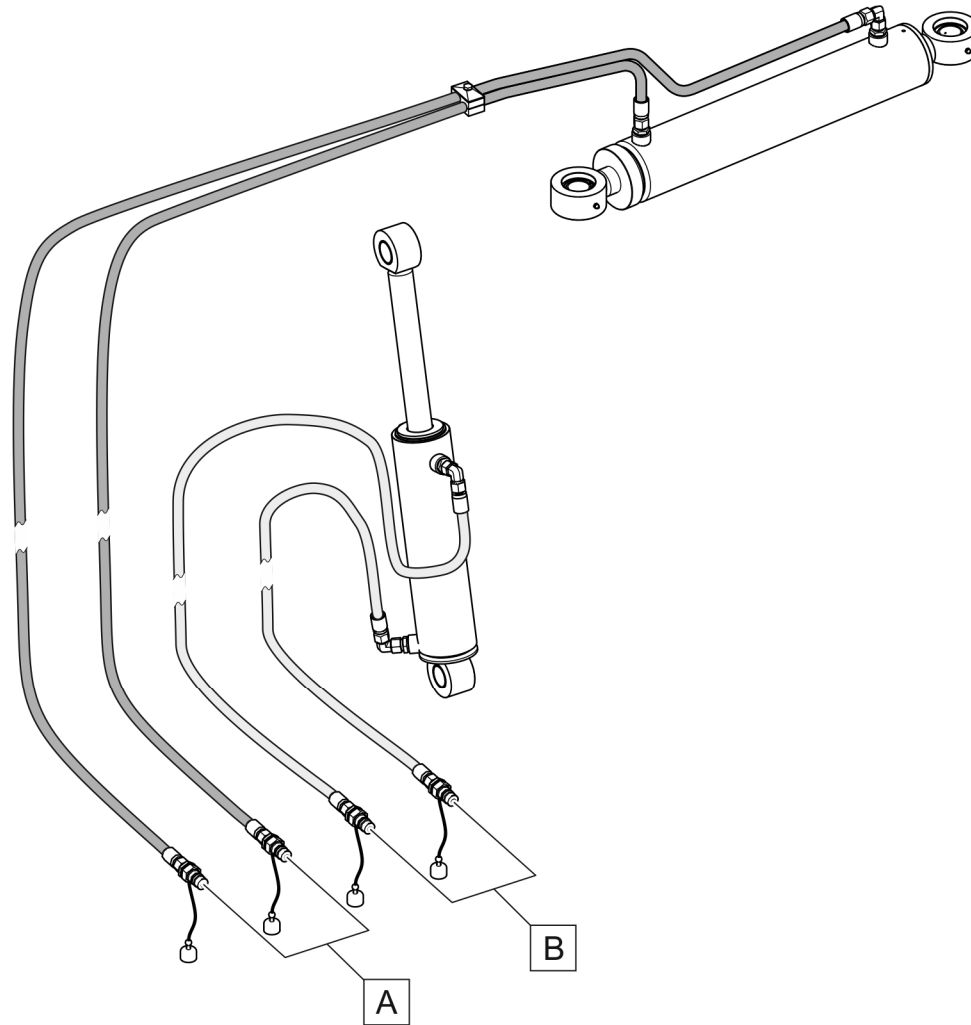

FIG. 4.4 **Connect the hydraulic system**
The plough hydraulic system (FIG. 4.4) is equipped with 2 pairs of quick couplers (size 1/2" ISO7241-1), which connect to two sections of the external hydraulic system of the carrier vehicle. Connectors (A) are responsible for the circuit controlling the mouldboard to the right / left, while the plugs (B) should be connected to the section with a floating position controlling the lifting and lowering of the mouldboard. To facilitate identification of quick couplers protective plugs in various colours are used.
- 1) Approach the carrier's attachment plate with the plough mounted on the cart. Connect the snowplough's hydraulic system lines to corresponding connectors of the carrier vehicle's external hydraulic system (FIG. 4.4). Connect the electrical system connectors.